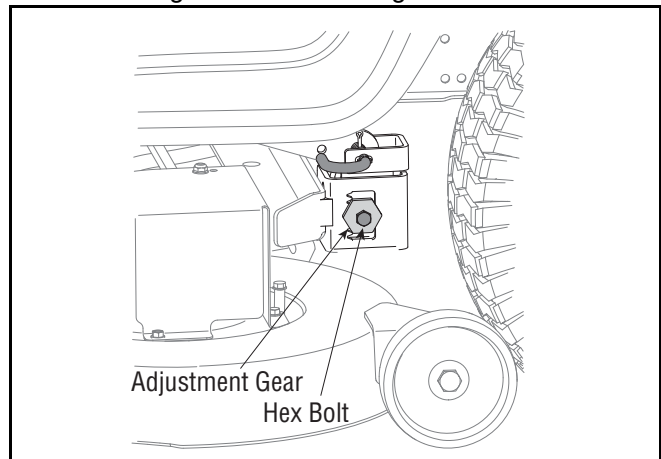

Figure 15
3. Loosen, but do NOT remove, the hex bolt on the left deck hanger bracket. See Figure 15.
4. Balance the deck by using a wrench to turn the adjustment gear (See Figure 15) up or down.